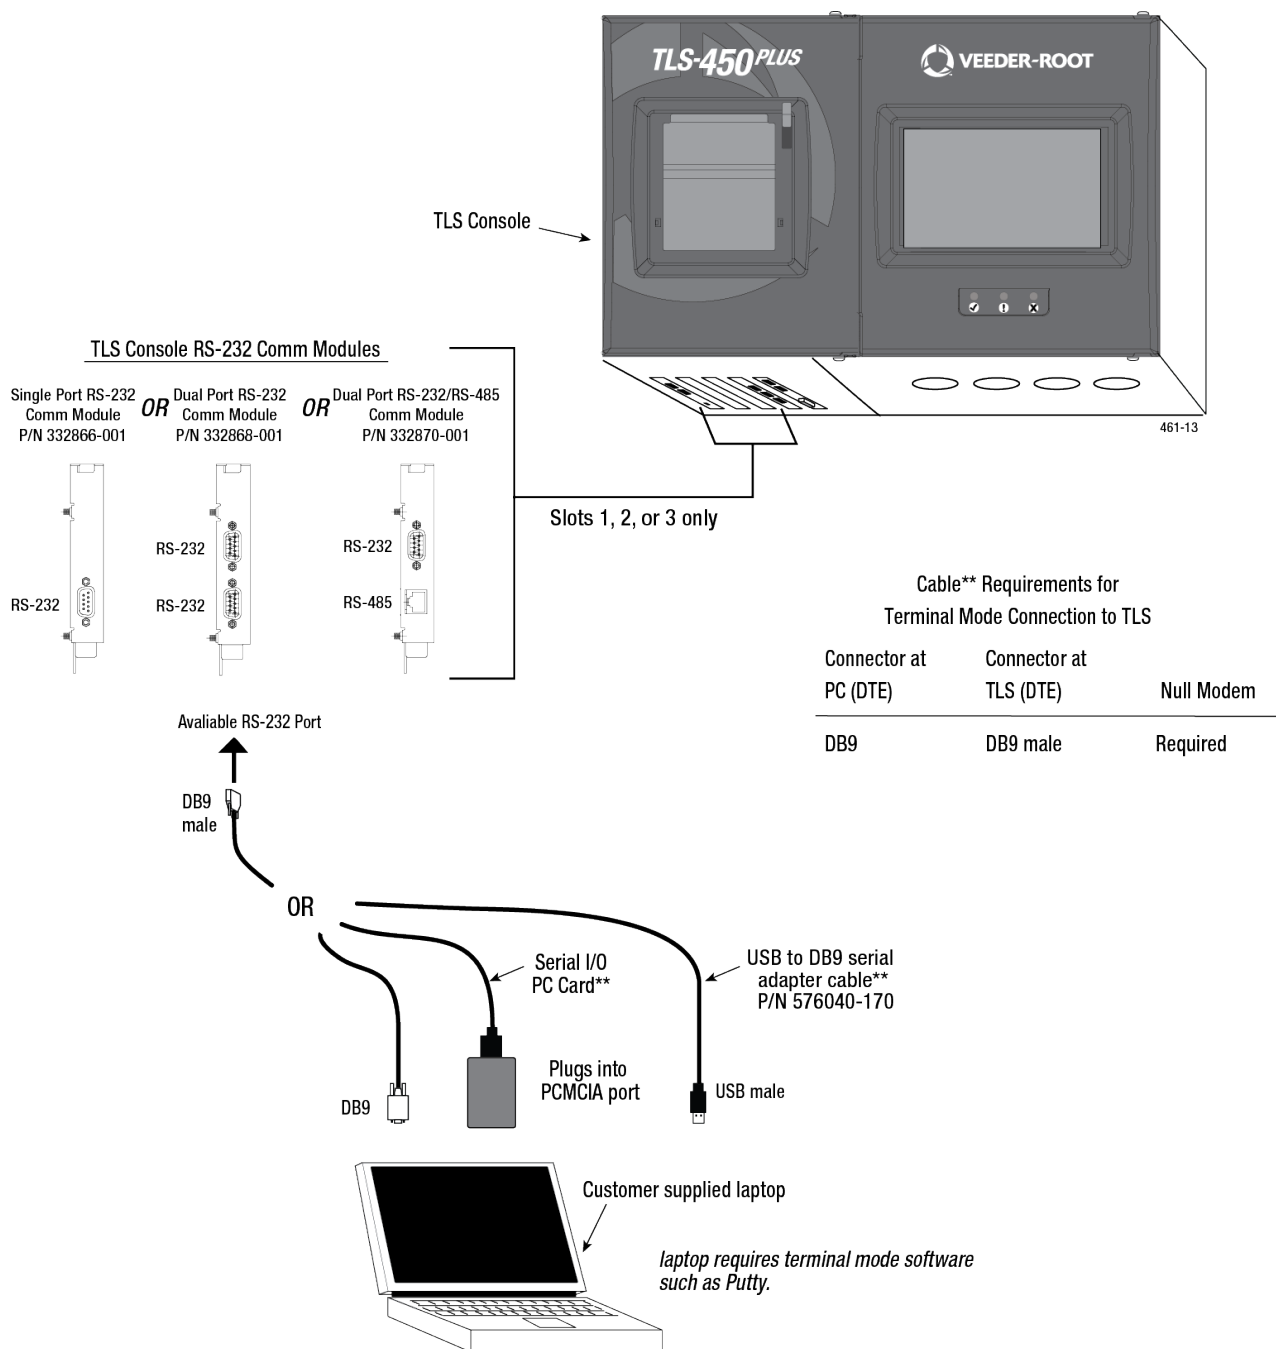

Figure 84. Connecting Laptop to TLS-450PLUS for Serial Communication
1. Connect your laptop to one of the TLS-450PLUS RS-232 Comm port using one of the methods shown in the in Figure 84 below.